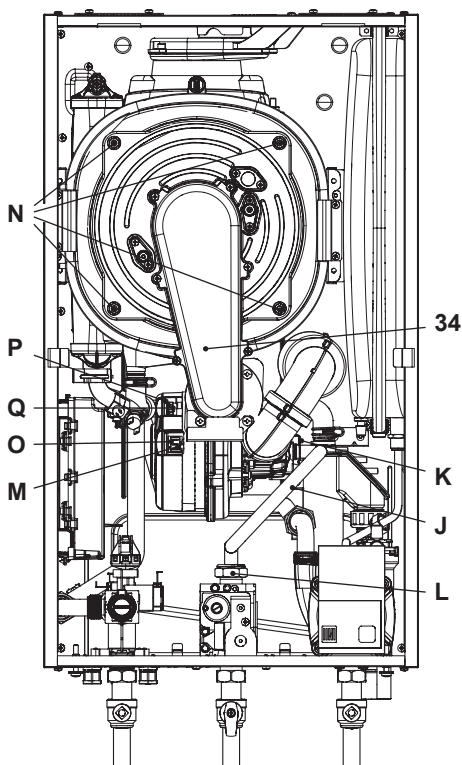

Fig. 10.9
Removing the fan burner unit 34 in Fig. 10.9.
- Insert a flat screwdriver in the connector recess **M** and lever towards the bottom, disconnect the connector at the same time **O** by pulling towards the front **O** (Fig. 10.9).
- Disconnect the fan connector **P** by pressing the plastic hook **Q** positioned at the bottom part of the connector (Fig. 10.9).
- Unscrew screws **N** and remove the fan burner unit 34 (Fig. 10.9)